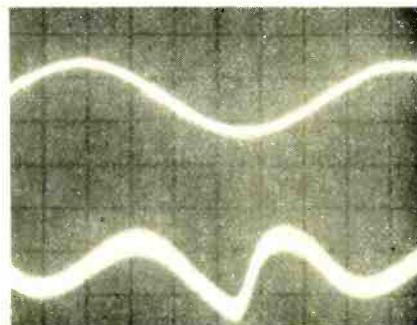
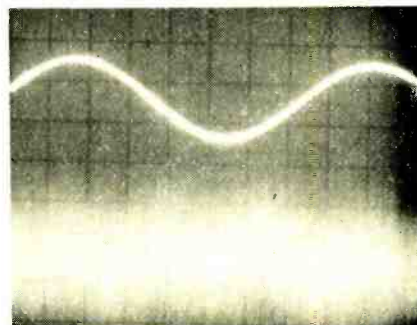

FIG. 6—TEST SIGNAL is shown in upper trace. Same test signal with 0.3% distortion is shown in lower trace.
FIG. 7—DISTORTION is overridden with noise when output of amplifier is reduced to 0.1 watt, as shown in lower trace.
Cushman's *model CE-5* and *model CE-6A* (Fig. 6) both cover CB frequencies as well as those for FM two-way radio. For either one, you choose a plug-
**FIG. 6—MULTIPLE FUNCTIONS** characterize Cushman instruments for AM and FM communications testing and repair. Modules plug in to adapt unit for mode of testing required.
In the lab we took an integrated amplifier and applied a variety of signal levels to it while observing its output on a scope along with the distortion products (available from a separate output jack on our distortion analyzer). Figure 6 shows the 1-kHz output as the upper trace, and about 0.3% distortion as the lower trace. This is what we observed when the ampli-
fier delivered its rated power output of 25 watts per channel. We then lowered the signal level to around a 0.1-watt output (adjusting the vertical gain of the scope so that the upper trace would appear as in Fig. 6). Our distortion analyzer again read 0.3% distortion, but, as is clearly evident from the lower trace of Fig. 7, what the analyzer was really reading was not harmonic distortion but the amplifier's "noise floor"—some 50 dB below a 0.1-watt output level. Perhaps the lower trace of Fig. 7 (and the 0.1-watt output of the amplifier) *does* contain some harmonic distortion; but, at that low level, the overriding noise completely obscures it—and becomes the limiting factor of the amplifier.